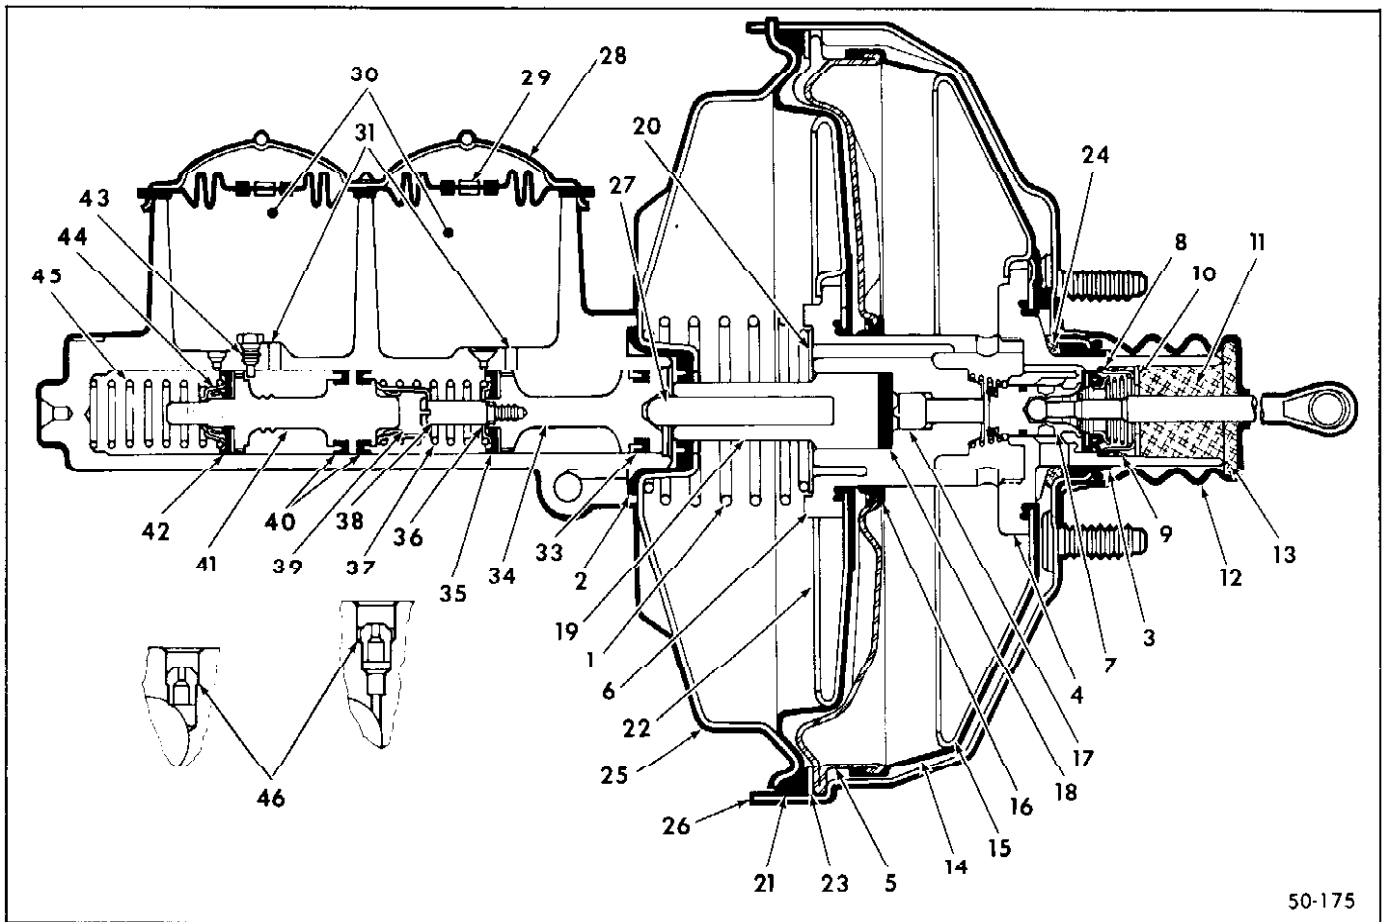

Figure 50-68 Tandem Power Brake Unit
The power heads include a 9-1/2" diameter rear housing (26) and an 8" diameter front housing (25). These housings are locked together by rotating the tangs on the edge of the front housing into slots in the edge of the rear housing. See Figure 50-68.